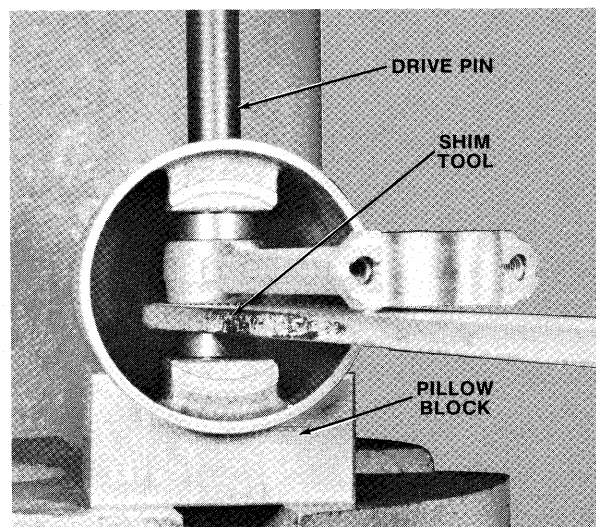

Figure 14—Pressing Out Piston Pin
4. Press piston pin out as shown in figure 14.
- D. Install connecting rod with needles on alignment pin with match mark on crank pin end of connecting rod towards intake side of piston. See figure 14. This will position match mark of connecting rod "up" or always toward flywheel end of crankshaft.